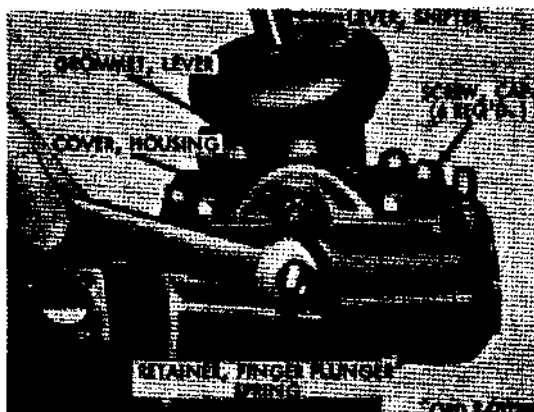

Figure 264. Removing finger plunger spring retainer
(1) Housing cover.
- (a) Remove finger plunger spring retainer (fig. 264) from side of shifter housing and pull out finger plunger compression spring and finger plunger.